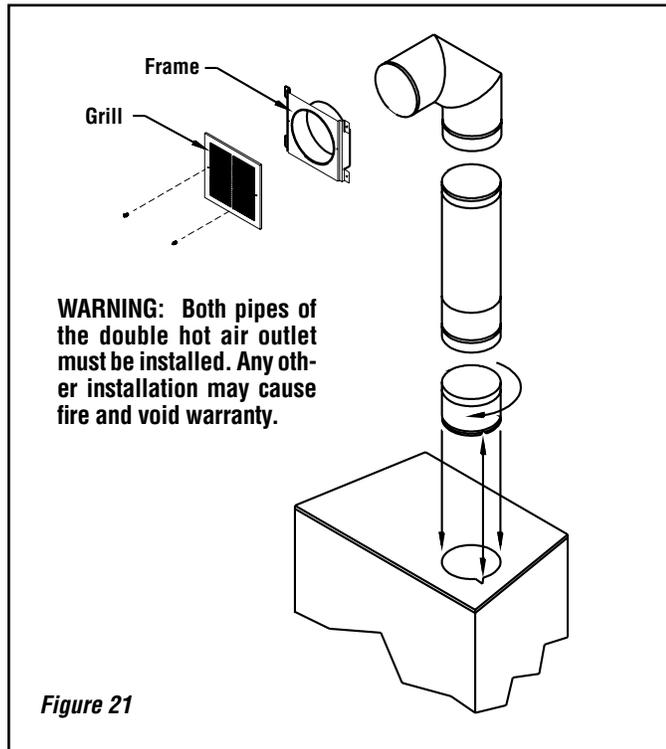

Figure 21
(See **Figure 21**)
1. Remove the plates closing up the 8" diameter holes on top of the fireplace. Then, cut the insulation in order to obtain two 8" dia. openings. Fix the adaptors on the fireplace openings by turning clockwise (**Figure 21**).